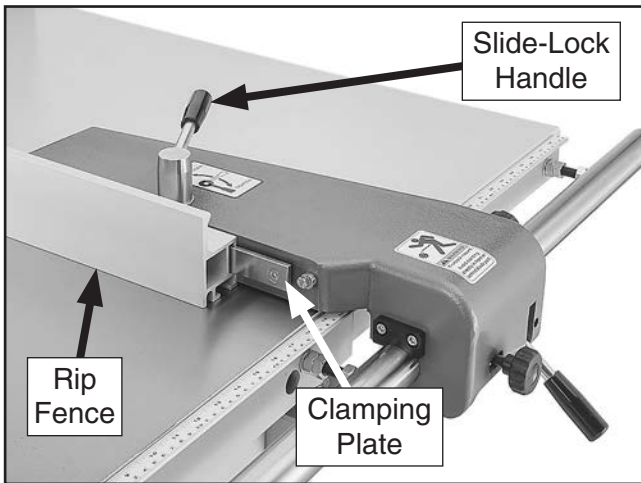

Figure 29. Rip fence attached to rip fence base.
- Slide rip fence onto clamping plate and lock with slide-lock handle (see **Figure 29**).